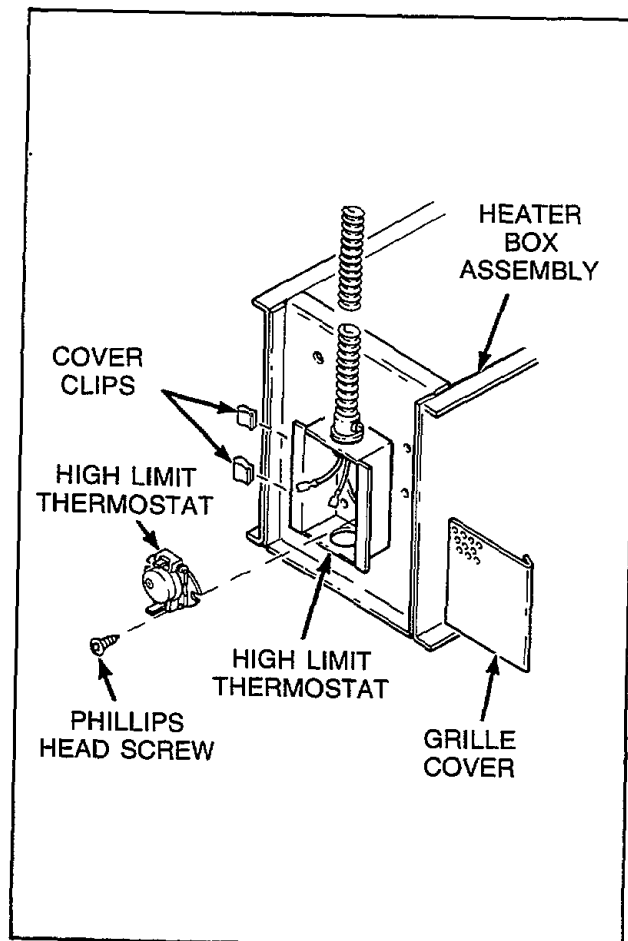

Figure 31
**31. HIGH LIMIT THERMOSTAT - Electric Models (Refer to Figure 31)**